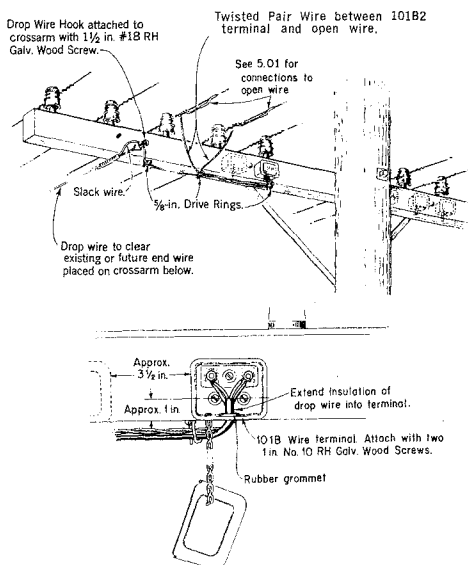

Fig. 1 — Where Drop Wire Is Distributed from Crossarms Other than DE Type
4.10 The wiring arrangement on crossarms equipped with insulator pins is illustrated in Fig. 1, 2, and 3.